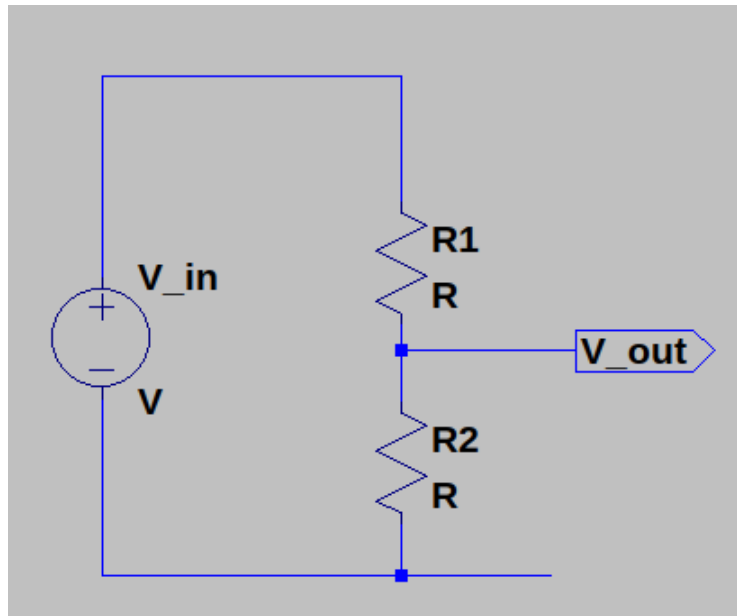

Figure 2: Circuit diagram of voltage divider rule with 2 in-series resistors
Another important principle is the Voltage Divider Rule (VDR). VDR defines how voltage drops over multiple resistors and how an output voltage can be created as a fraction of the input voltage, as shown in Equation 2. Figure 2 shows the voltage division circuit with V_{out} measured between the two series resistors.
8. Connect the second resistor in-series with the first resistor, as shown in Figure 2.